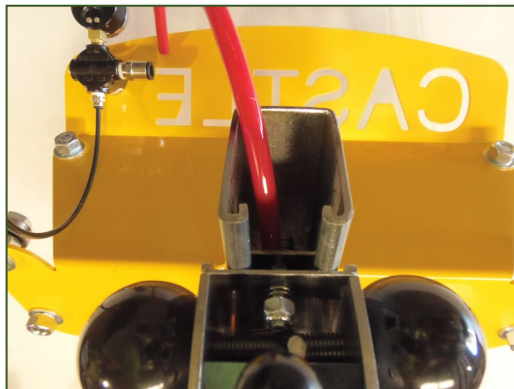

Fig 34
3. Slide the cylinders out of the Clamp Arm by pushing them through the top of the Upper Clamp Arm Bracket. (Fig 34)